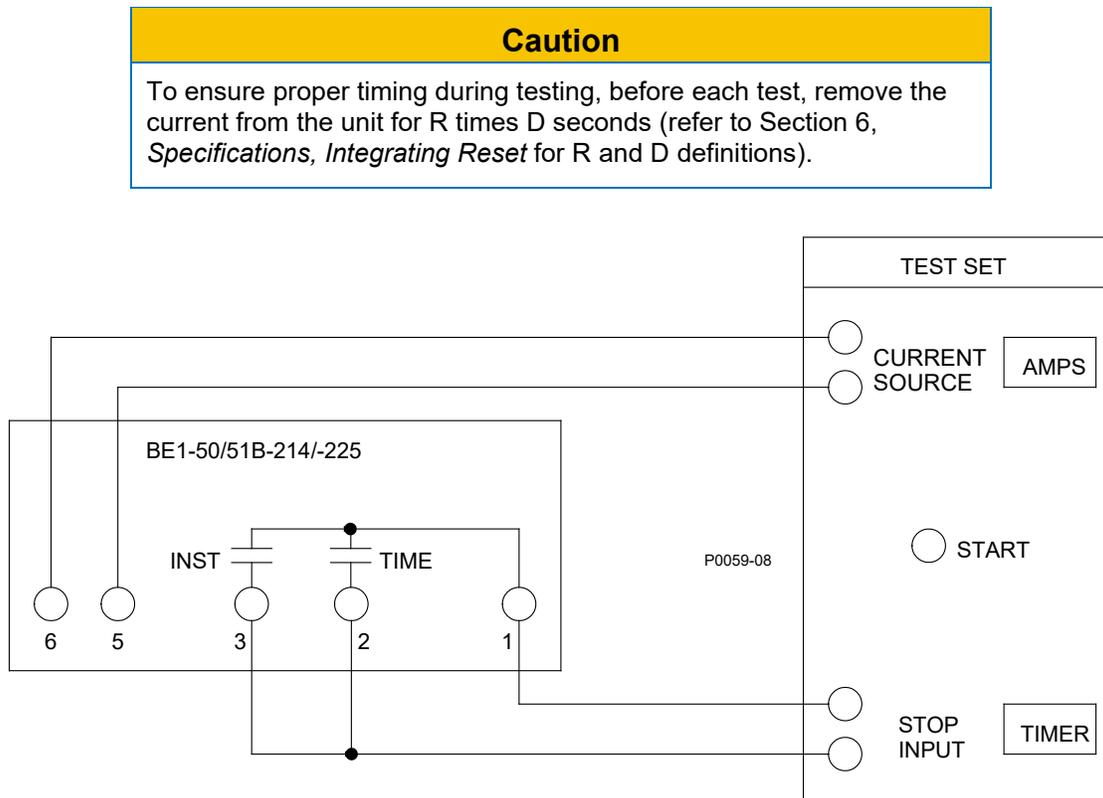
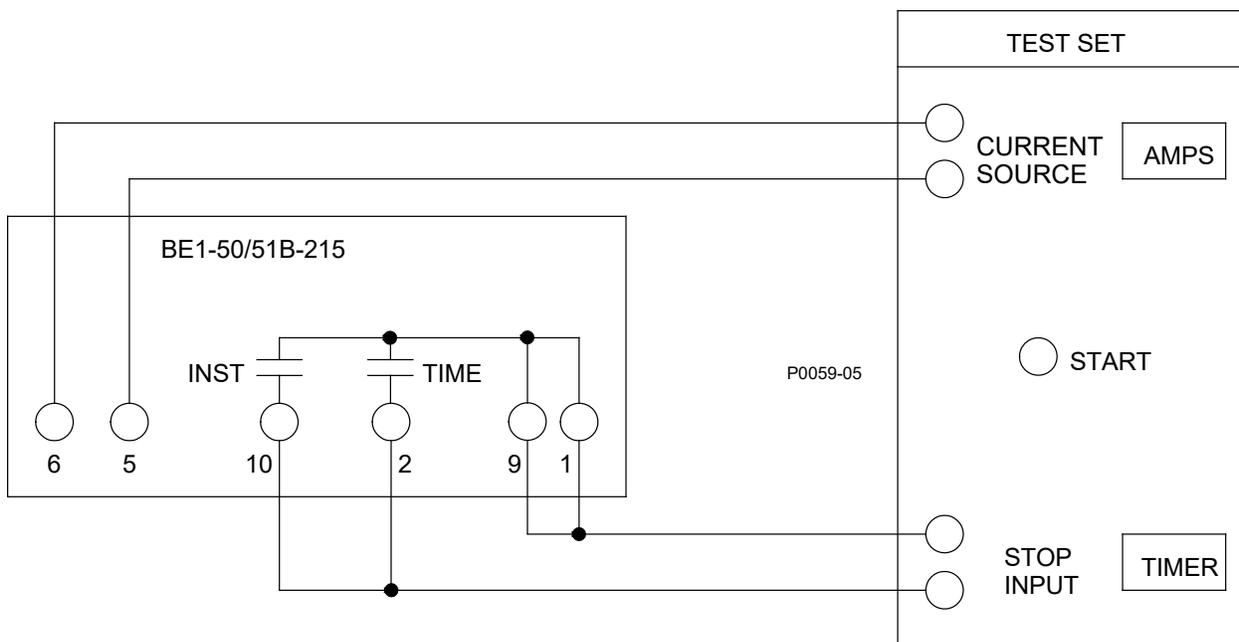
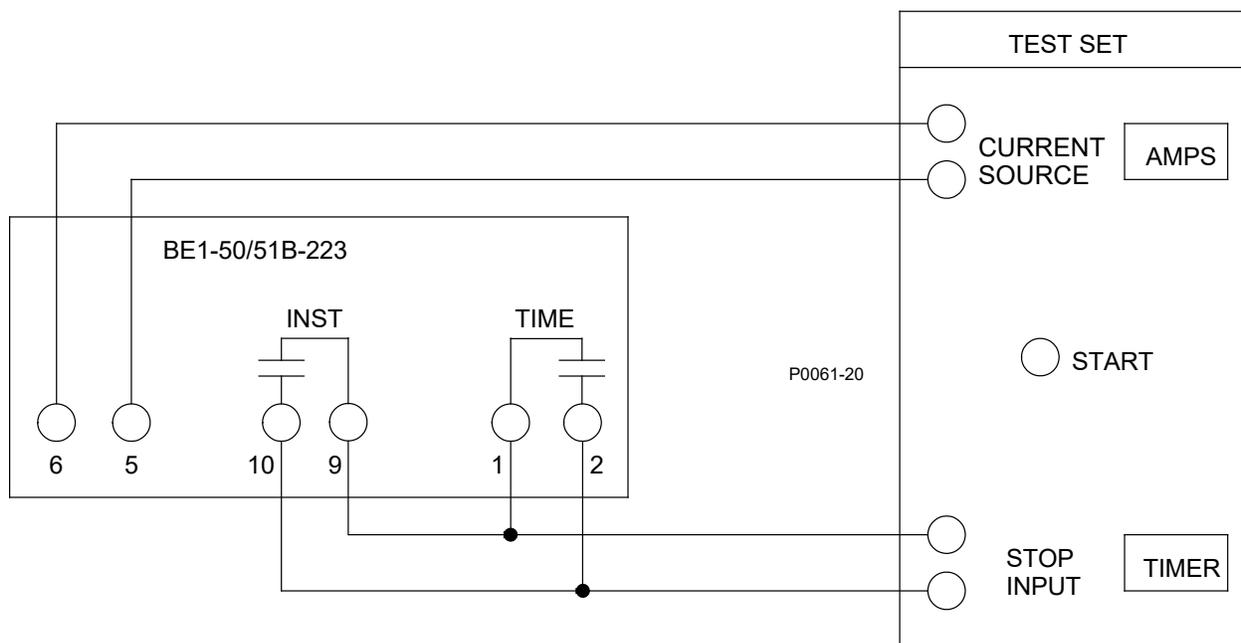

Figure 5-1. Pickup and Timing Test Setup, BE1-50/51B-214/-225
Figure 5-3. Pickup and Timing Test Setup, BE1-50/51B-215
Figure 5-5. Pickup and Timing Test Setup, BE1-50/51B-223
The following procedures verify operation of relays BE1-50/51B-214/-215/-223 (5-ampere model) and BE1-50/51B-225 (1-ampere model). The test setup of Figures 5-1 and 5-2 (BE1-50/51B-214/-225) are intended primarily as an illustration of the principles involved. The BE1-50/51B-215 is illustrated in Figures 5-3 and 5-4. The BE1-50/51B-223 is illustrated in Figures 5-5 and 5-6. Other test setups known to be capable of testing with the stated and implied tolerances (including equipment specifically designed for testing relays) may be used.
- Connect test setup as shown in Figure 5-1 (BE1-50/51B-214), Figure 5-3 (BE1-50/51B-215), or Figure 5-5 (BE1-50/51B-223).
- Connect test setup as shown in Figure 5-1.